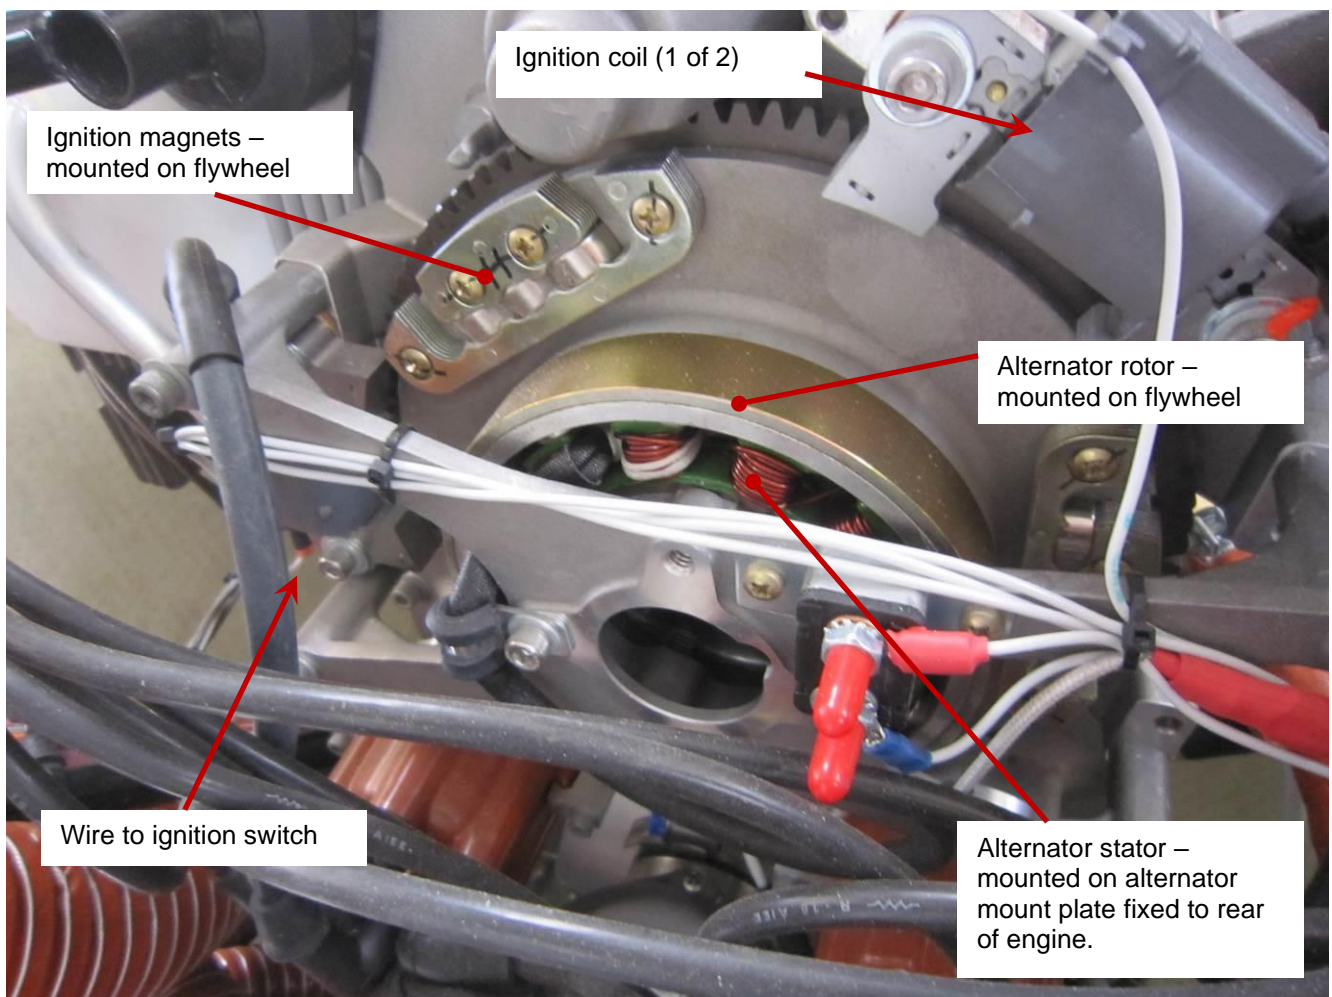

Figure 8. Ignition and Alternator Detail
- The ignition unit has dual breakerless transistorised ignition with the magnets mounted on the flywheel and the coils mounted on the alternator mount plate. Figure 8 shows the coils of a Jabiru 6-cylinder engine. For the 2200 engine the system is the same, however the position of the coils and the magnets on the flywheel are slightly different.
- When installing new ignition coils the output leads go in the direction of prop rotation. RHS coil output lead is up LHS coil output lead goes down – See Figure 8.